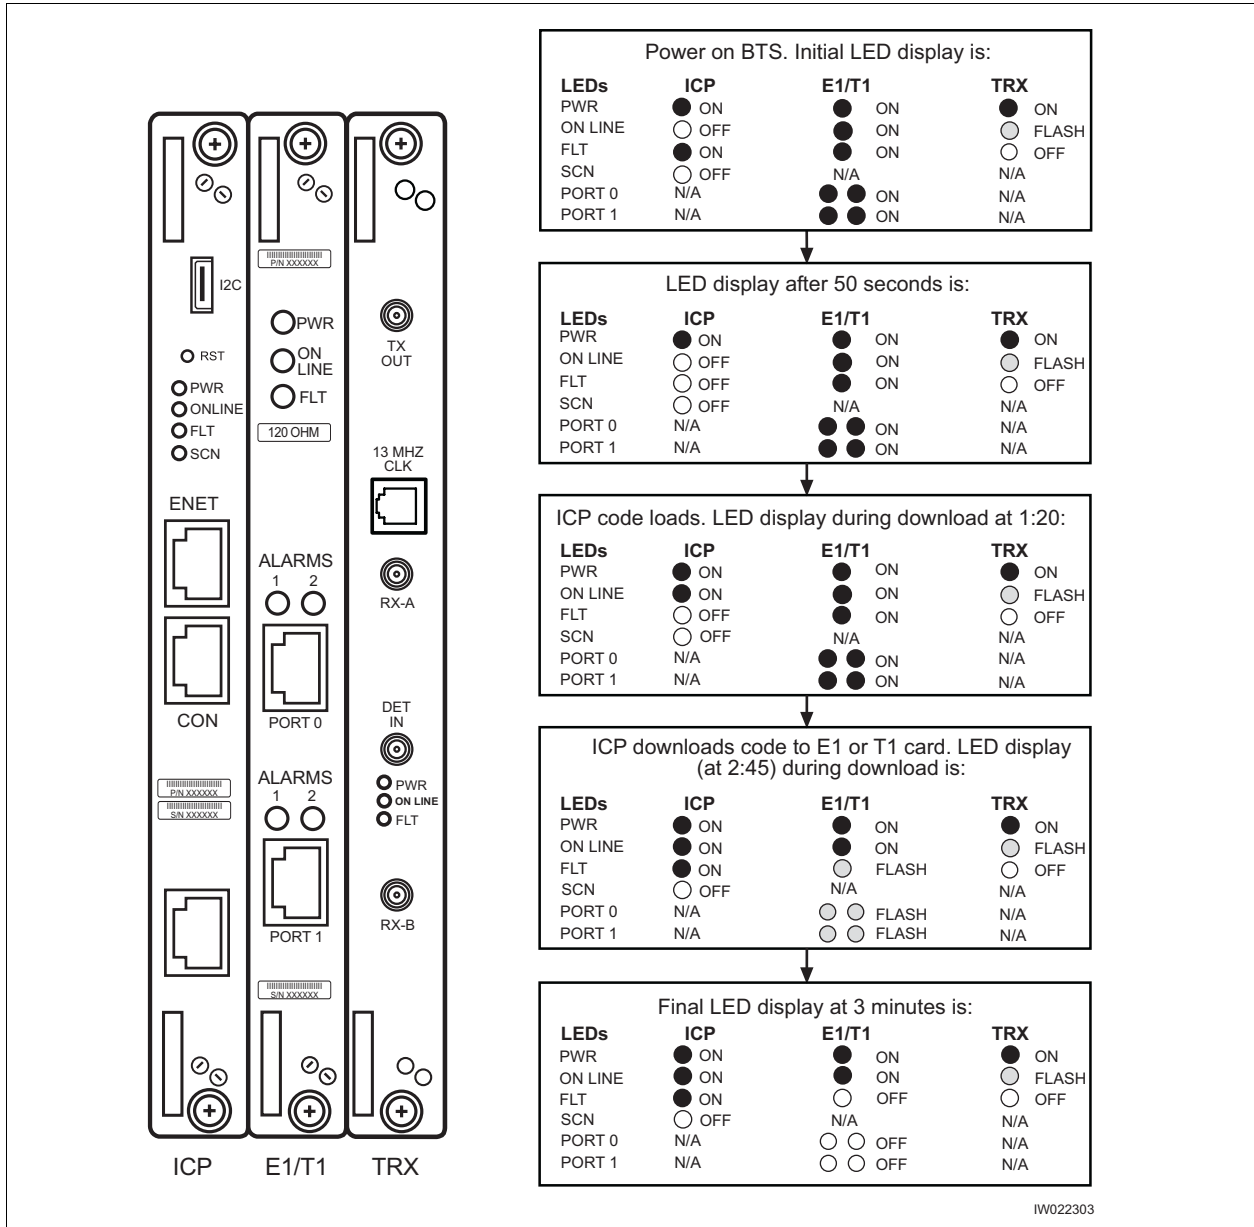

Figure 3-4: LED Sequence During the Boot Process
- 2 Verify that the front-panel LEDs flash in the sequence shown in Figure 3-4.